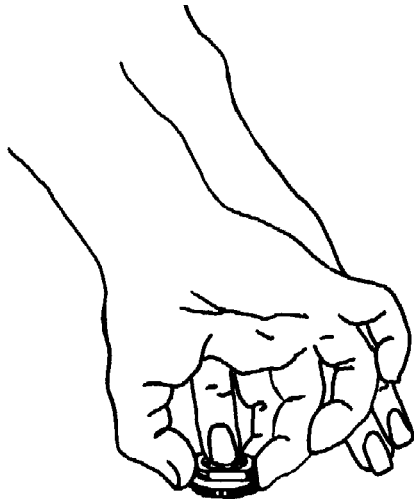
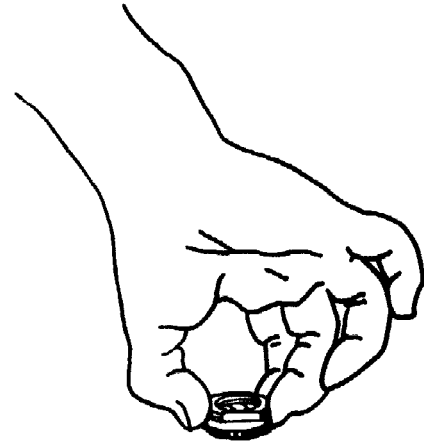

Figure 5.
Figure 6.
7. Refer to Figure 5. While holding the mounting base down, thread the locking nut onto it. When the nut is well onto the mounting base, pull up on the entire assembly as shown in Figure 6. Make sure the mounting base is centered in the hole, and seated properly with both shoulders inside the mounting hole. Use a 15/16-inch open-end wrench to tighten the locking nut until it bottoms firmly against the roof top.